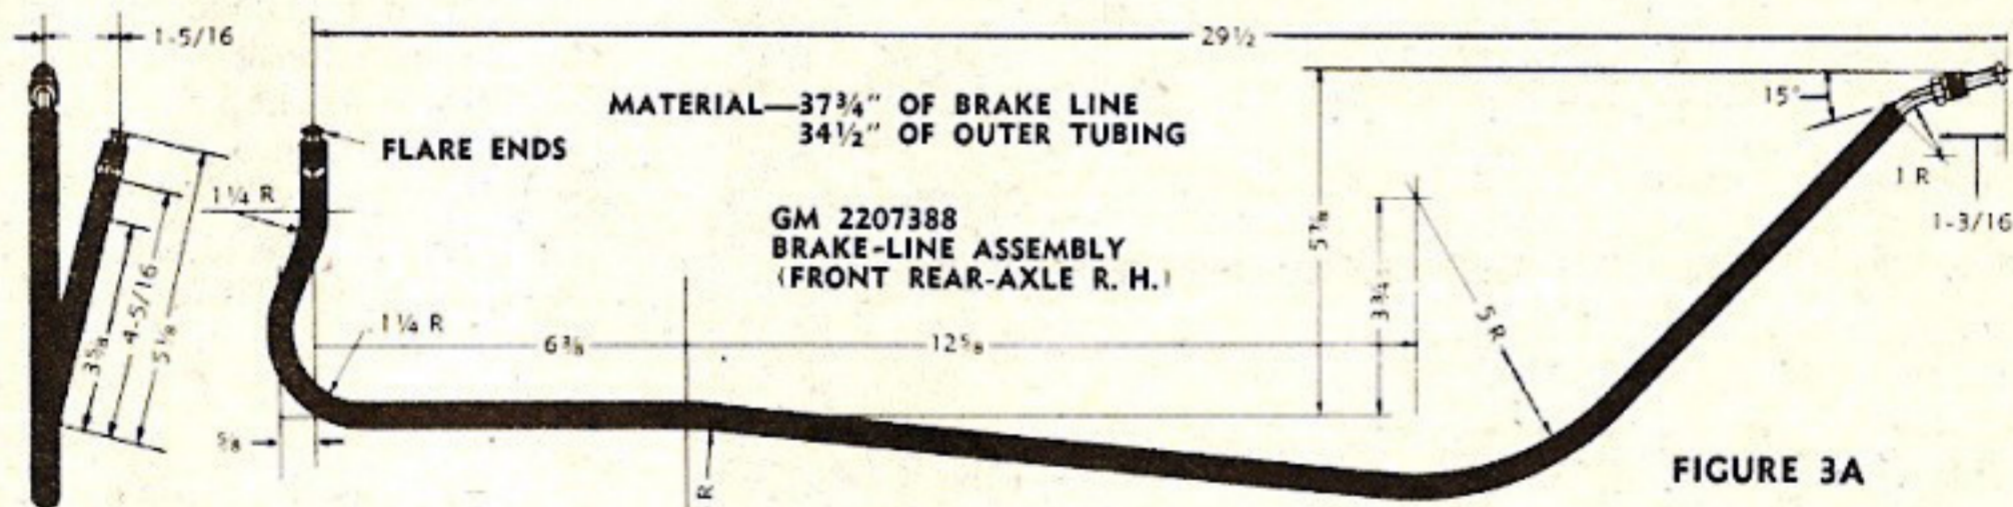
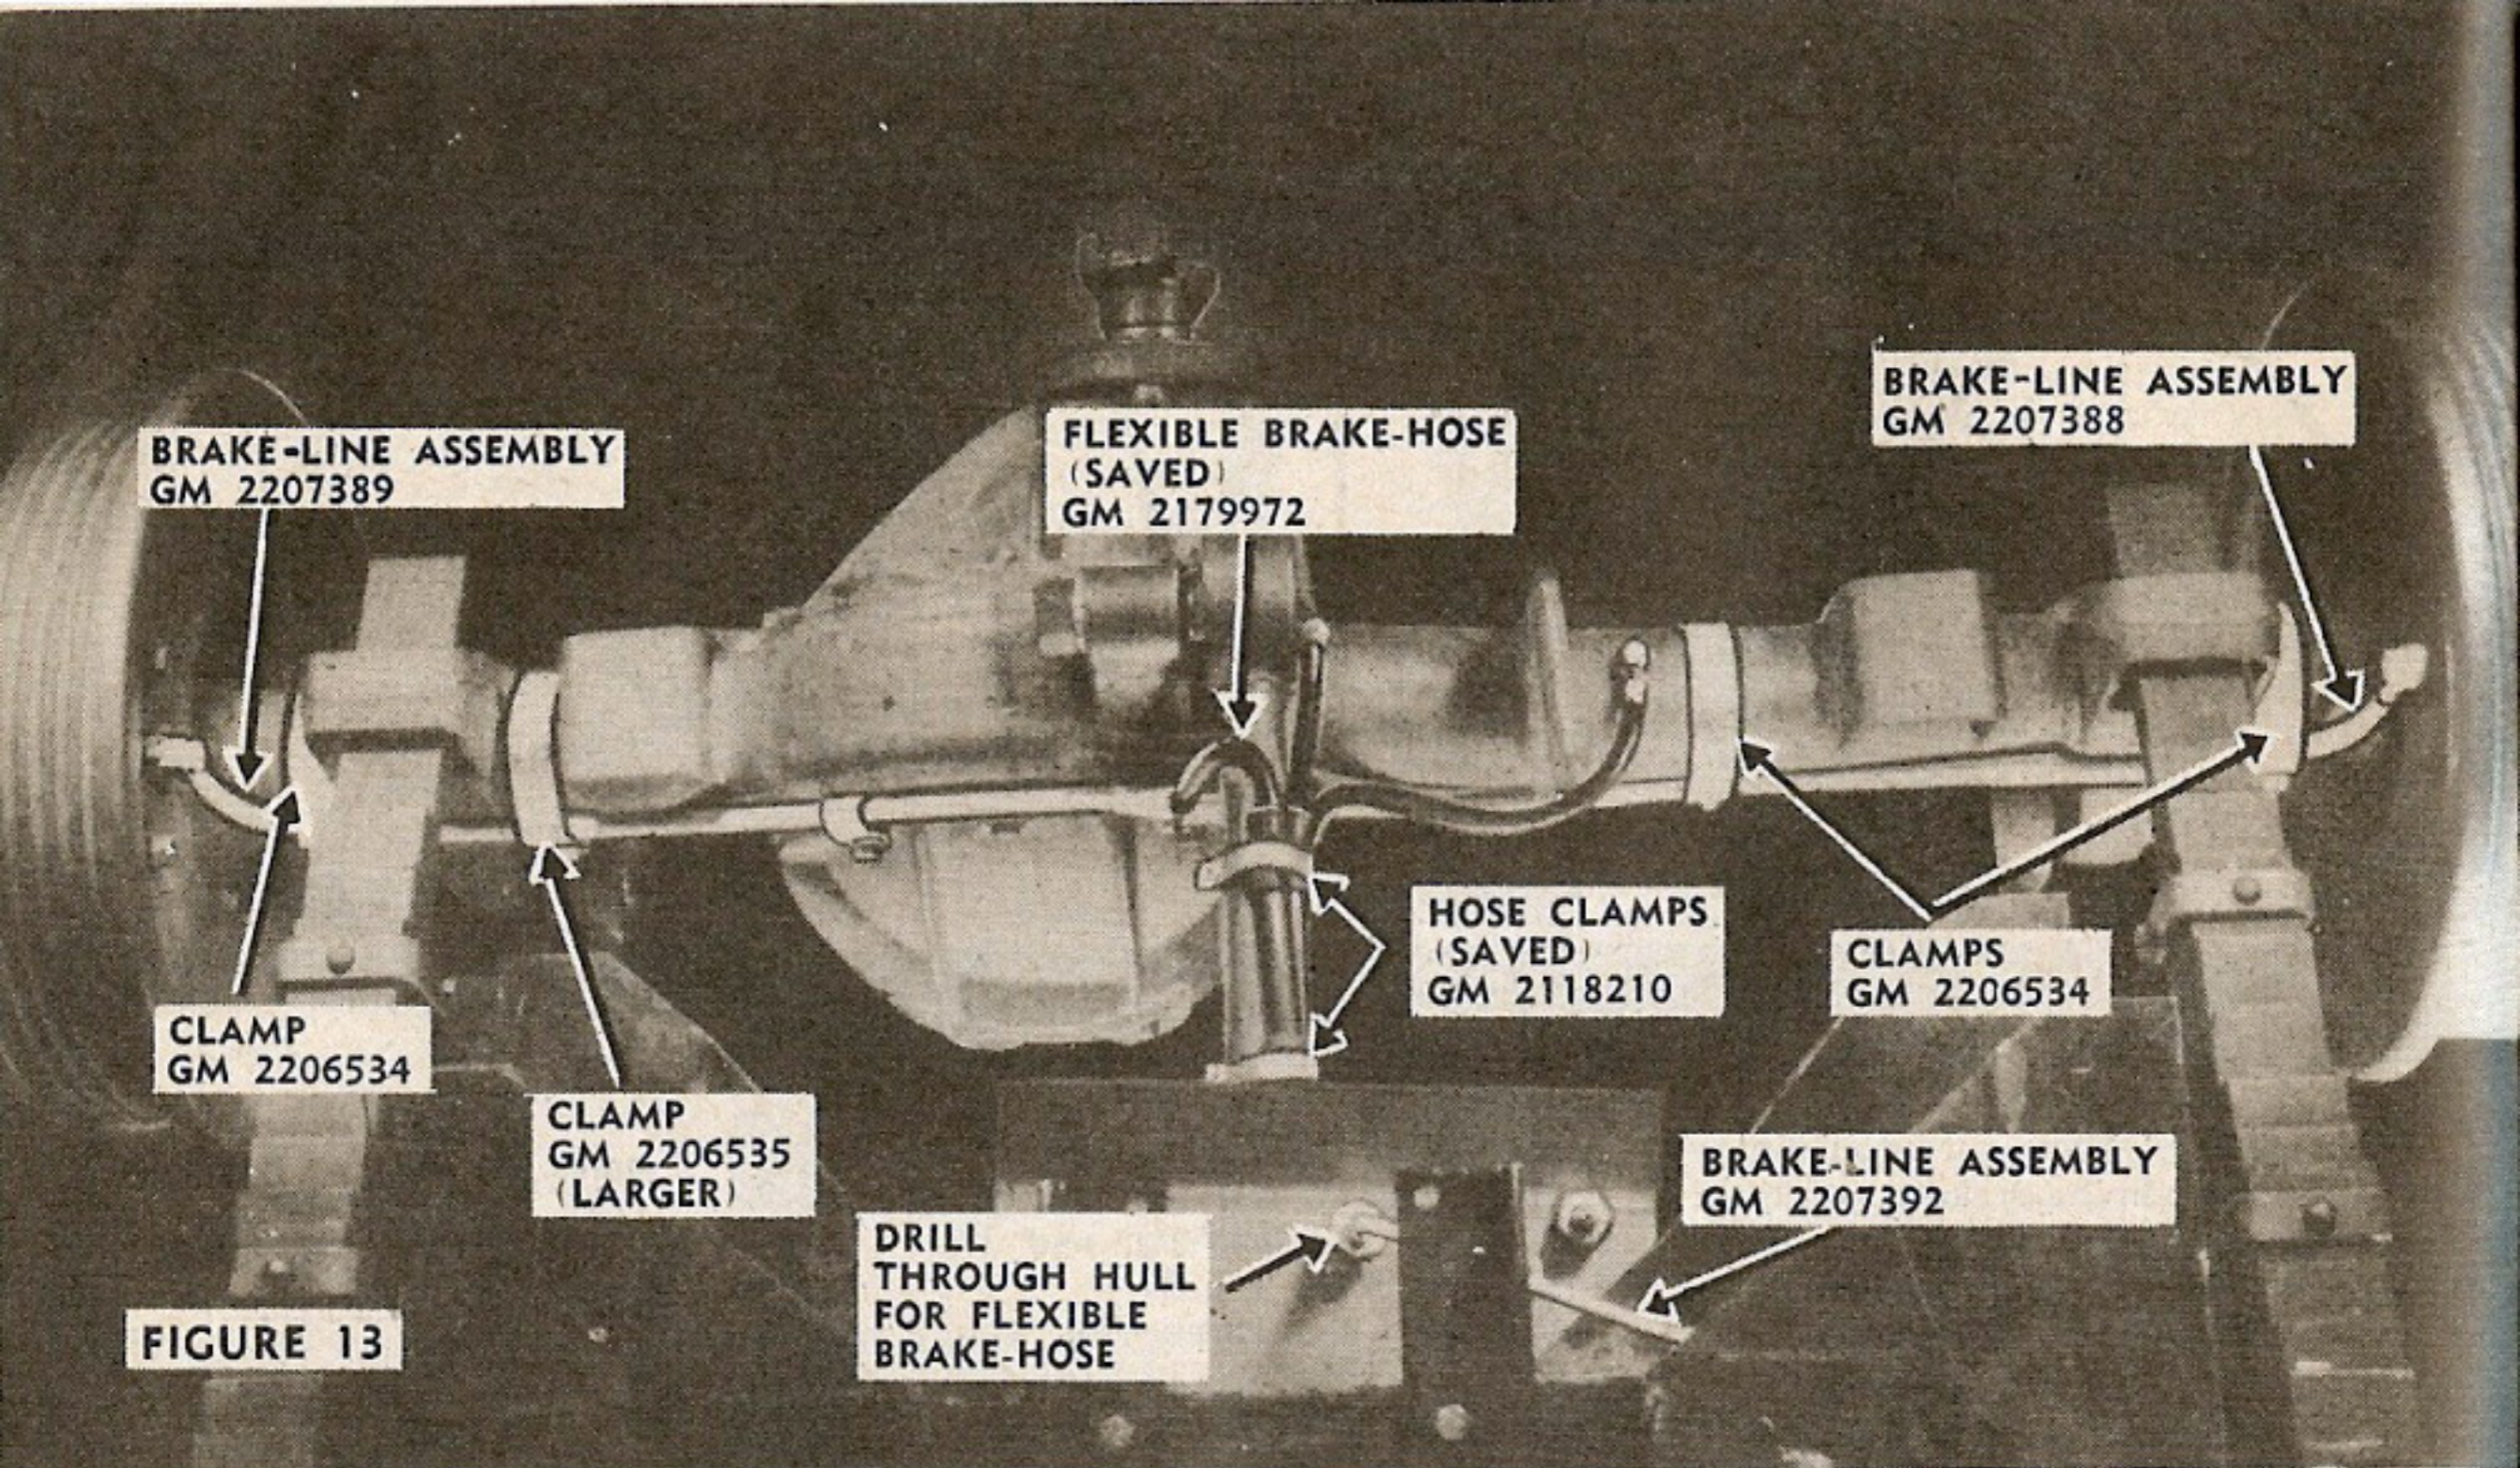

FIGURE 3A
FIGURE 13
(5) Connect the brake-line assemblies for the front rear-axle (GM 2207388, Fig. 3a and GM 2207389, Fig. 3b) and fasten them to the front rear-axle in the same manner as those for the rear rear-axle, but use 2 axle-housing-cover bolts to fasten the brake-line with the 2 clips (GM 065232, Fig. 11). And instead of 4 clamps of the same size to fasten the rest of the brake-line to the axle, use only 3 clamps (GM 2206534, Fig. 8) and 1 larger clamp (GM 2206535, Fig. 11) as shown in Fig. 13.
(7) For the flexible brake-hoses (those you removed and saved), you'll need two holes drilled through the hull—use a 21/32" drill. Drill the hole for the rear rear-axle hose 3 3/4" from the cross member and 3 3/4" to the right of the center line of vehicle chassis (facing front of vehicle) Fig. 14. For the front-rear-axle hose, the hole goes 1 1/4" from the cross-member and 1 1/4" to the right of the vehicle-chassis center-line (Fig. 13). Then slop caulking compound around the holes to avoid trouble with water leaks later.
(9) Attach the front-rear-axle hose and both vent tubes on top the torque arm. Wrap them with a 2" length of slit wire-loom and clip them to the torque arm with hose clamps GM 2118210 (those you removed and saved) Fig. 13. Then clip the rear-rear-axle hose and vent tubes in the same manner, using the other two hose clamps you saved, Fig. 14. Here's
(12) Connect the curved end of brake-line assembly (GM 2207392, Fig. 5) to the front-rear-axle brake-hose (inside the hull, Fig. 13) and the other end to the tee assembly.
(13) Use the last piece of tubing
Fig. 13 — Front rear-axle — cut-away view. This substitute for the underside of a duck waddles off the top of the page, and you can't see the straight brake-line that runs to the hydrovac. What you can see are the bends in the brake line and outer tubing hugging the axle housing—the flexible hose clipped to the torque arm with the vent tubes, then connected through the hull to the metal brake-line (GM 2207392)—and the way the slit wire-loom wraps around the flexible hose and the vent tubes.